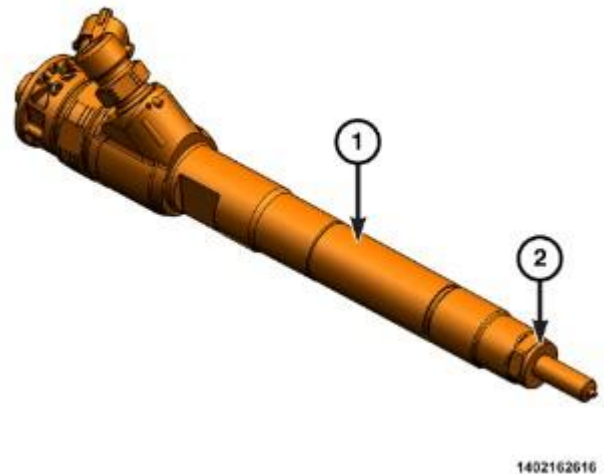

Figure 146 – Lower Sealing Washer
92. Install a **NEW** sealing washer (2) onto the fuel injector (1) (Figure 146).